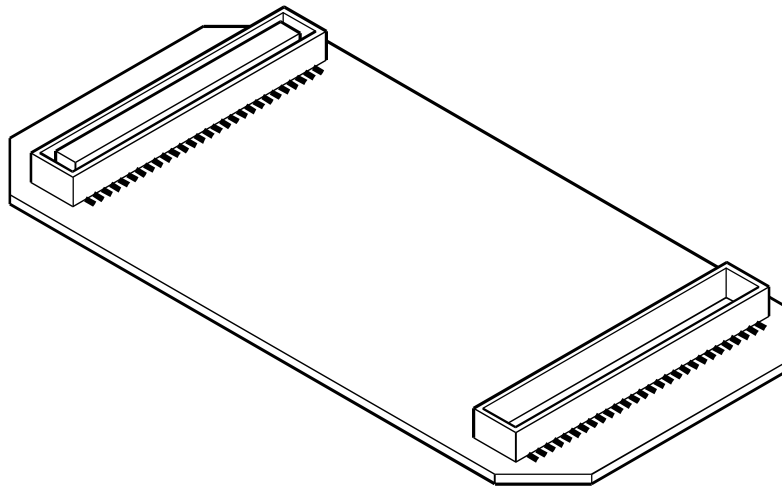

Figure 3: Extender PCB
5. Extender PCB, Part No. G6EXT PCB 001 (Figure 3).